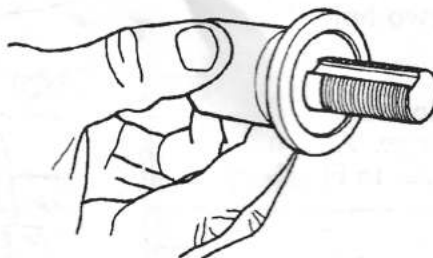

Fig. 12
12. Remove the arbor nut (17), key washer (16), and the top flange washer (15) from the arbor (13). Your arbor should have a flange washer (15) already on its shaft, as in Fig. 12.